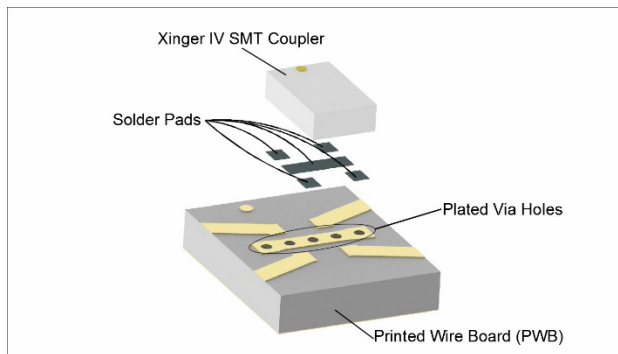

**Figure 3: Solder Paste Application**
**Solder Paste:** All conventional solder paste formulations will work well with TTM Technologies Xinger surface mount components. Solder paste can be applied with stencils or syringe dispensers. An example of a stenciled solder paste deposit is shown in Figure 3. As shown in the figure solder paste is applied to the four RF pads and the entire ground plane underneath the body of the part.